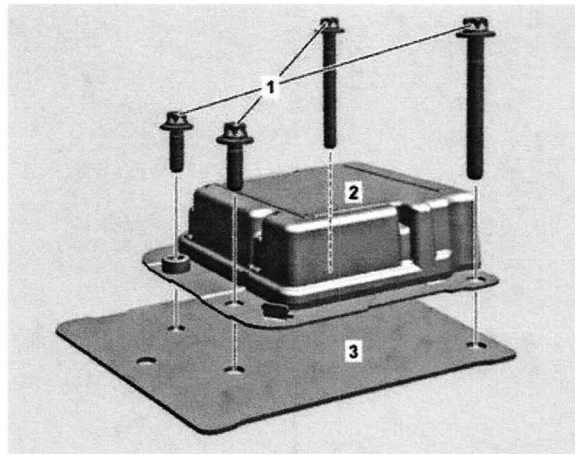

Figure 1
2.  Retrofit SRS control module reinforcement plate/protective bracket (3, Figure 1): Align reinforcement plate/protective bracket (3) with threaded mounting bores of SRS control module (2) at control module's installed position.
3.  Reinstall SRS control module (2, Figure 1) on top of reinforcement plate/protective bracket (3):